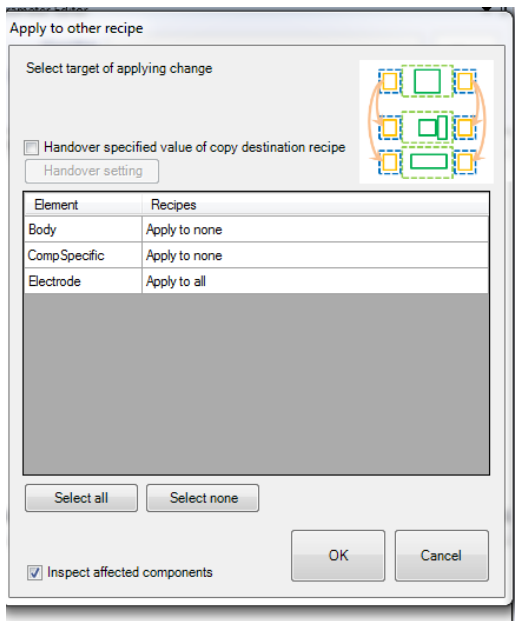
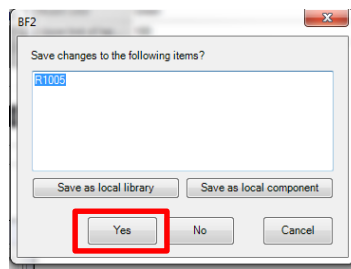

FIG 1-4
FIG 1-7
If multiple Recipes are assigned to one Shape, the dialog shown below in Figure 1-4 appears.
•When you press Yes on the Figure 1-7 then appears the window Figure 1-4